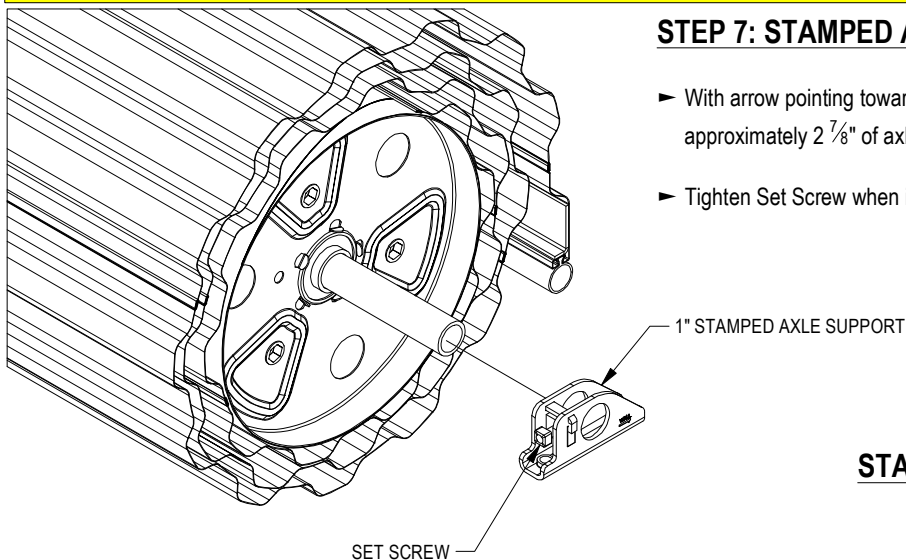

FIGURE 14:
- With arrow pointing toward wall, slide Stamped Axle Support over axle until approximately $2\frac{7}{8}$ " of axle is outside of Stamped Axle Support. **See Figure 14.**